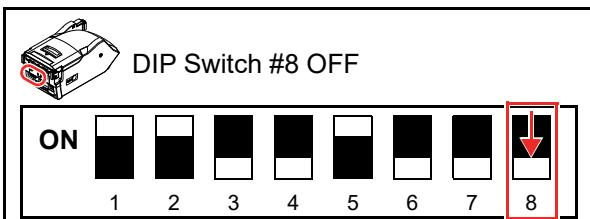

Figure 6-83 DIP Switch Test 4
6. To start the Test, set the UBA Pro DIP Switch #8 to **OFF** (Figure 6-83).